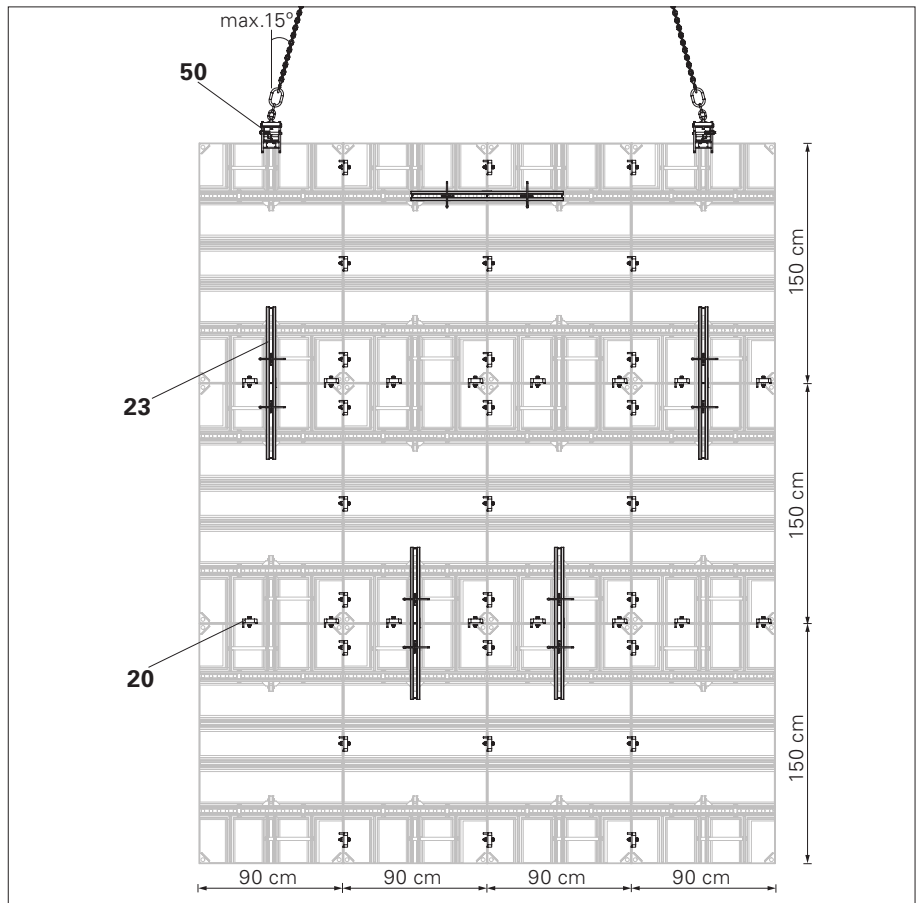

Fig. B6.03
Shown Height = 450 cm (Fig. B6.03)
Connect panels by means of Wedge Clip HSA (20) and Compensation Waler HSA 95 (23). (Fig. B6.03)